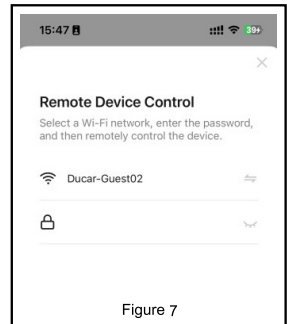

Figure 7
- First of all, WIFI must be turned on when Bluetooth is turned on, and the WIFI that can be connected to the Internet, as shown in Figure 7 below.